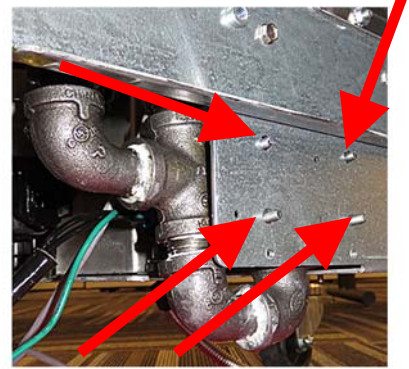

Figure 28
28. Once in place, insert the four (4) studs through the four (4) holes in the plate and attach with supplied nuts (see Figures 28 and 29).